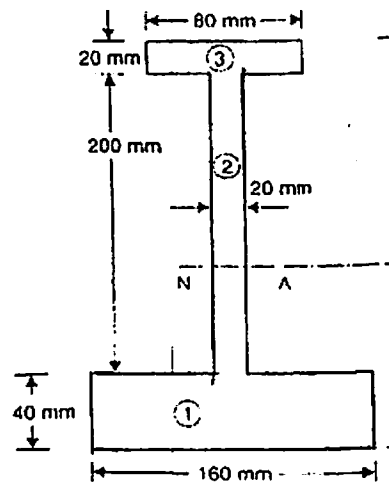

Fig. 4(a)
- Q.4 A cast iron beam is of I-section as shown in Fig.4 (a) The beam is simply supported on a span of 5 metres. If the tensile stress is not to exceed 40 N/mm^2 , find the safe uniformly load which the beam can carry. Find also the maximum compress stress. (10)